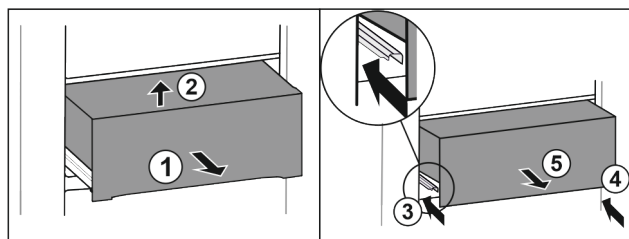

Fig. 33*
- ▶ Pull out the drawer half-way Fig. 33 (1).*
- ▶ Lift at the front Fig. 33 (2).*
- ▶ Insert left rail Fig. 33 (3).*
- ▶ Insert right rail Fig. 33 (4).*
- ▶ Take out the drawer to the front Fig. 33 (5).*